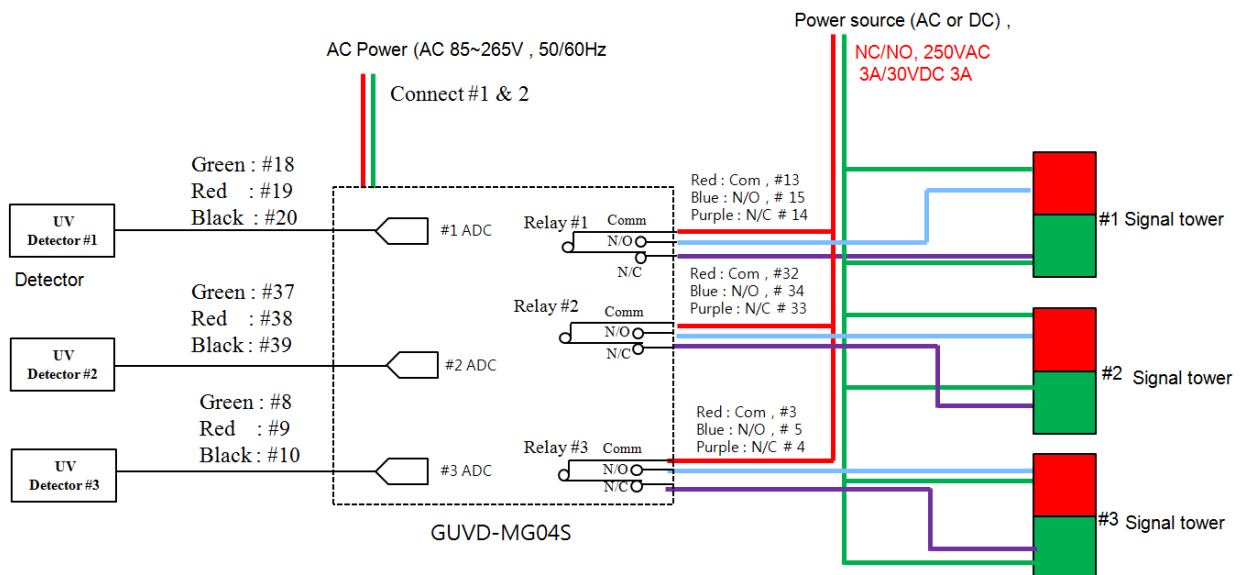

Fig. 2 Wiring diagram
1) Please connect the terminal reference to Figure 2. (The number indicated on the back of the display unit)